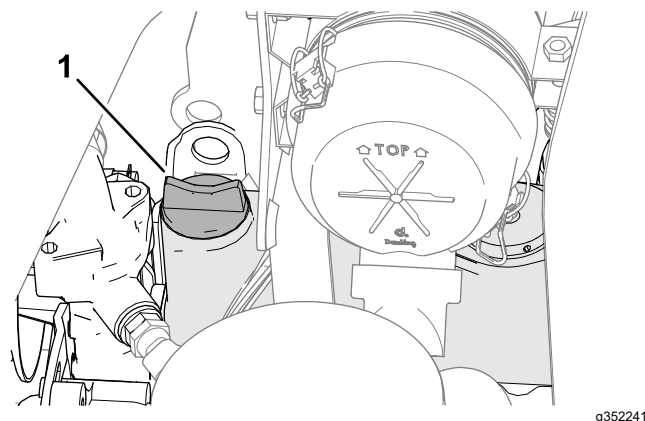

Figure 67
5. If the oil level is low, remove the oil-fill cap (Figure 67) and gradually add small quantities of oil, checking the level frequently, until the level reaches the Full mark on the dipstick.